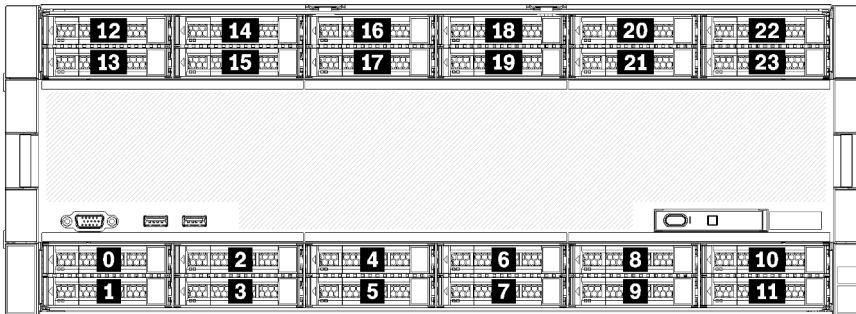

Figure 11. Drive bay locations
- Top two drives support SAS, SATA, or NVMe interface drives (Lenovo AnyBay). The server can support up to 12 NVMe drives, depending on the server configuration. The NVMe-capable drive bays are the even-numbered bays as shown in Figure 11 “Drive bay locations” on page 22.